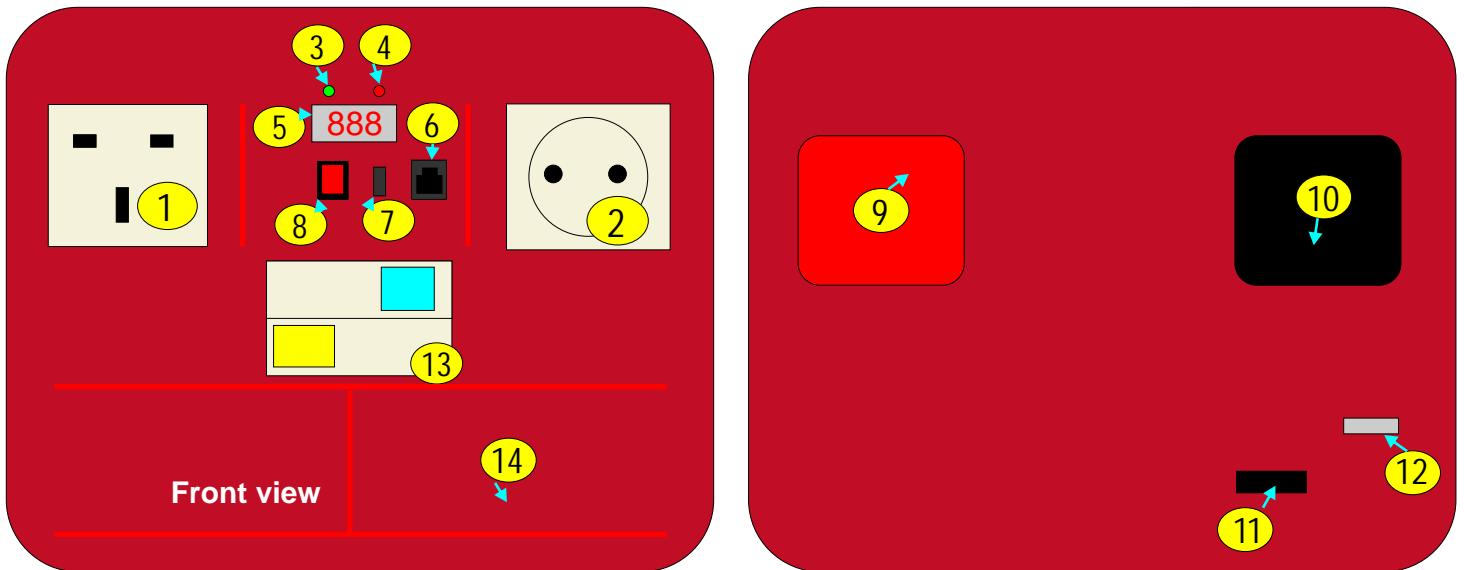

fig.1
9) **This unit comes standard as centre tapped, and must be converter to neutral earth bonding before installation** Ensure the Neutral bonding link is connected (small fuse) in position 11 in fig 1 (same position on Fig 2, remove the cover and insert the small fuse in that link, the unit is supplied without that link inserted. by inserting the link the unit becomes neutral earth bonded, essential for the operation of the RCD